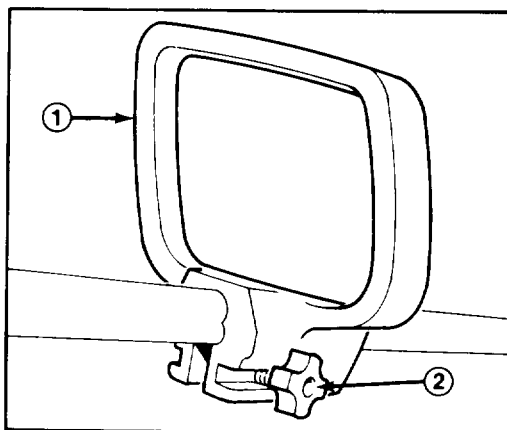

Figure 2
SECURE SUPPORT HANDLE (Fig. 2)
1. Rotate support handle upright and adjust to comfortable operating position. Tighten handle knob securely (Fig. 2).